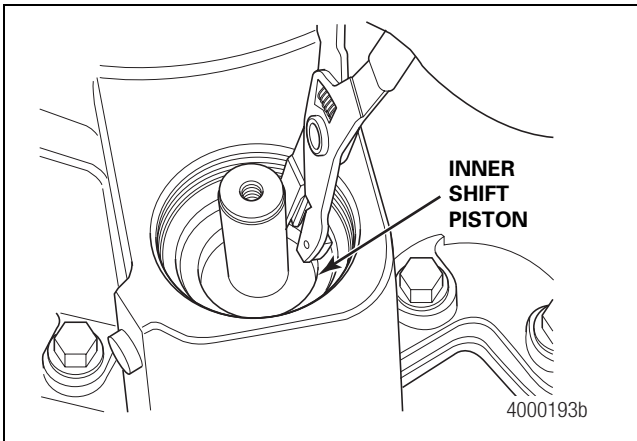

Figure 6.15
- 2. Install O-rings onto the inside diameter and outside diameter of the inner piston. Install the inner shift piston and snap ring onto the shift shaft. Figure 6.15.